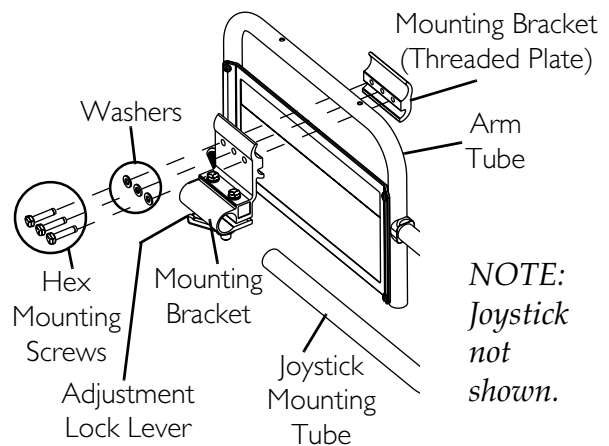

FIGURE 11.10 Repositioning Joystick - Adjustable ASBA Seats
NOTE: For this procedure, refer to FIGURE 11.10.
4. Reposition mounting bracket on opposite arm tube ensuring the threaded plate of the mounting bracket is on the inside of the arm tube as shown in FIGURE 11.10.